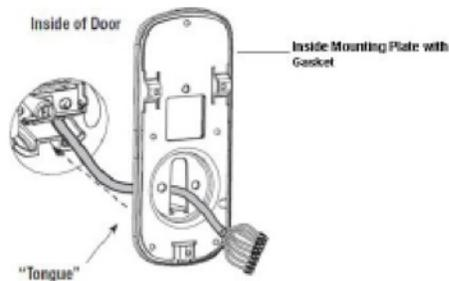

Figure 2
2. Holding the Outside Touchscreen side of the lock flush to the door, position the inside mounting plate by first routing the wire harness through the mounting plate's 1/2" hole (Fig. 2) then inserting mounting plate "Tongue" into groove at the bottom of the touchscreen part of the lock.